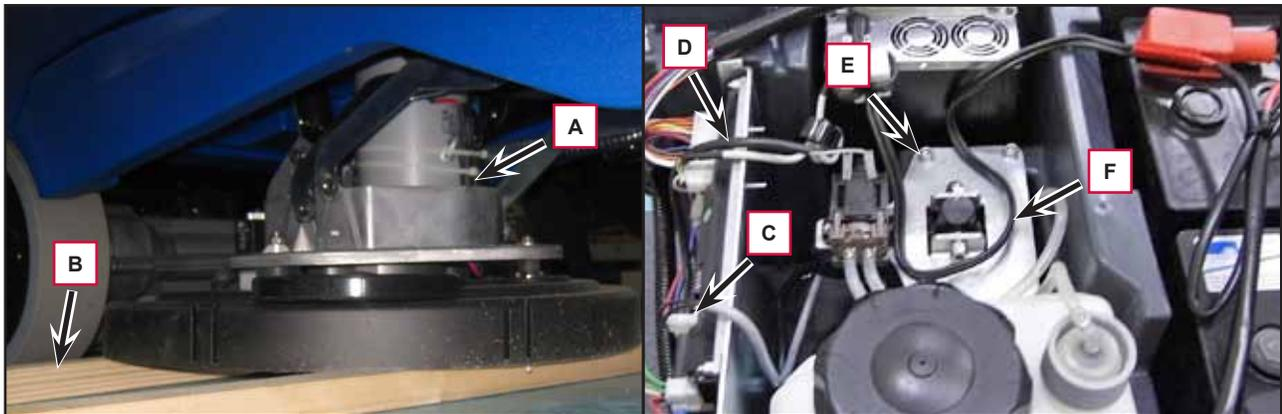

Figure 12
2. Place two wooden shims (B, Figure 12), at least 4 cm thick, under the brush deck (A).
8. Disconnect the actuator connection (C) on the function electronic board (D).
9. Remove the 4 screws (E) and remove the actuator plate (F).